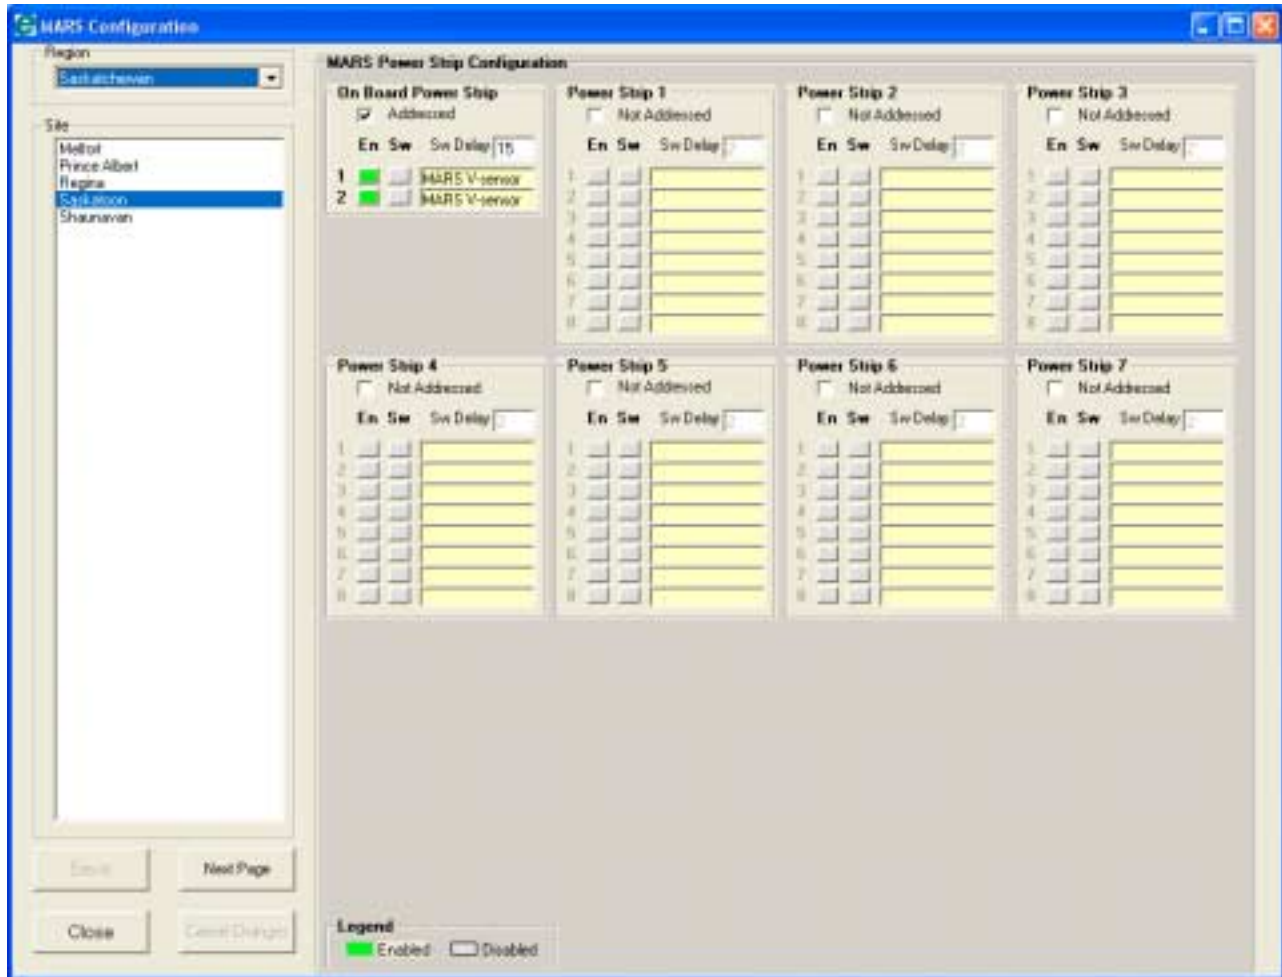

Figure 14: MARS Configuration, Power Strip Configuration Screen
1. Select **MARS Configuration** from the **Tools** menu. The Mars "Power Strip Configuration" screen will appear (See **Figure 14**, below).